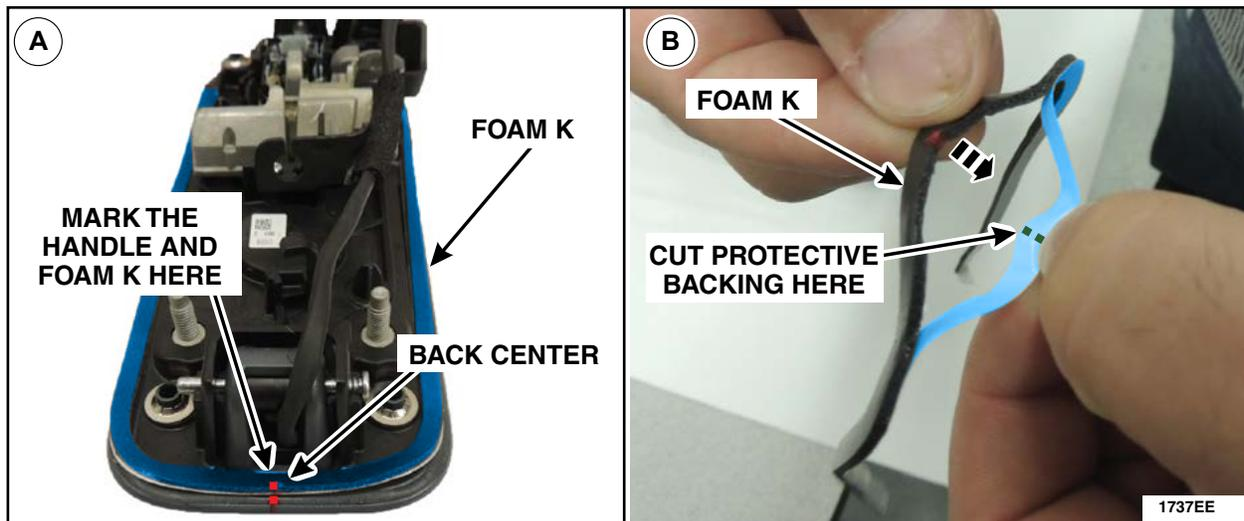

FIGURE 35
- A. Lay out Foam K on the exterior door handle and mark center as shown in Figure 35.
- B. Remove Foam K from the door handle and remove the back center portion of the adhesive backing then cut the protective backing in half. See Figure 35.